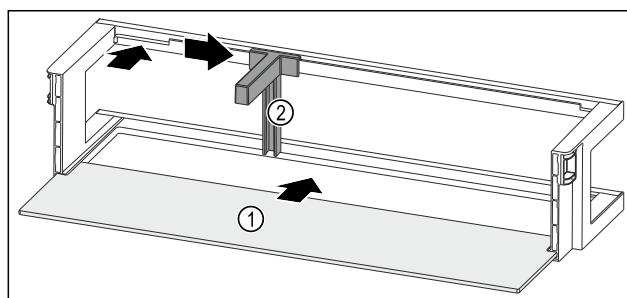

Fig. 97 Door rack with shelf
- Push the shelf Fig. 97 (1) into the side recesses.
- Insert the bottle holder Fig. 97 (2) in the recess.
- Push the bottle holder Fig. 97 (2) to the desired position to the side.